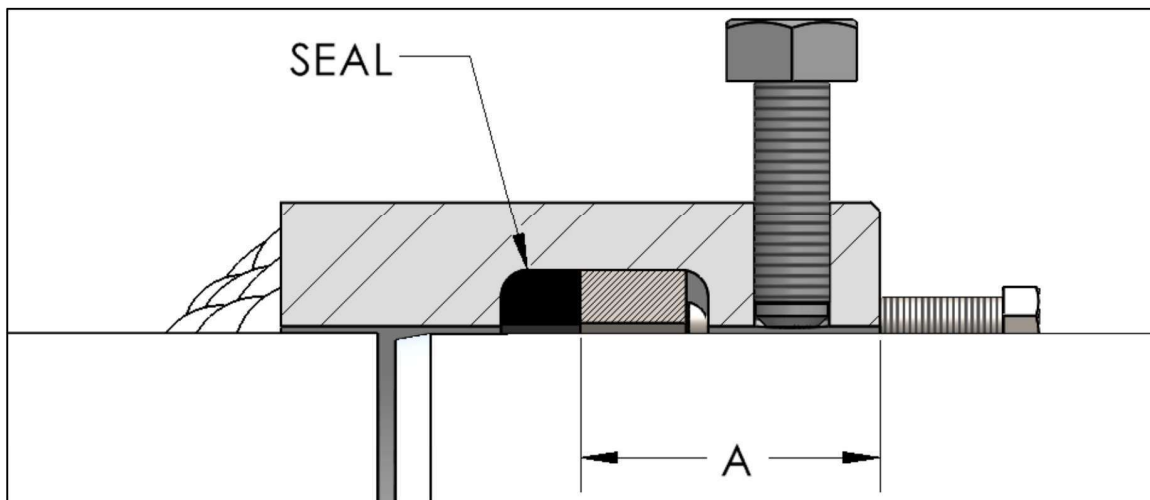

Figure 4
1. Measure and record the inside distance to the seal; dimension “A” as shown in Figure 4. This will be needed later if the mechanical end of the Half Weld+End is to be fully welded to the pipe.